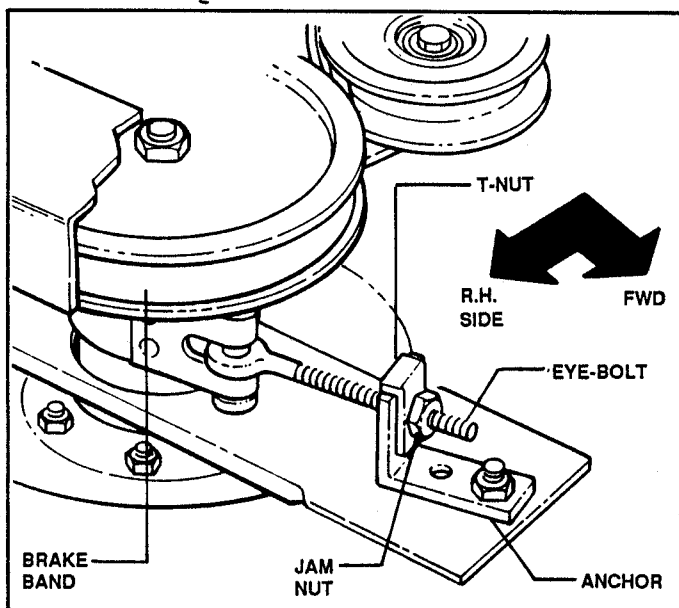

FIGURE 22
5. Tighten BRAKE BAND by loosening jam nut and turning T-nut on end of eyebolt, clockwise 1 to 2 turns, or until BRAKE BAND tightens. Make sure flanged lip on T-nut is positioned vertically to fit over top edge of anchor. See Figure 22.